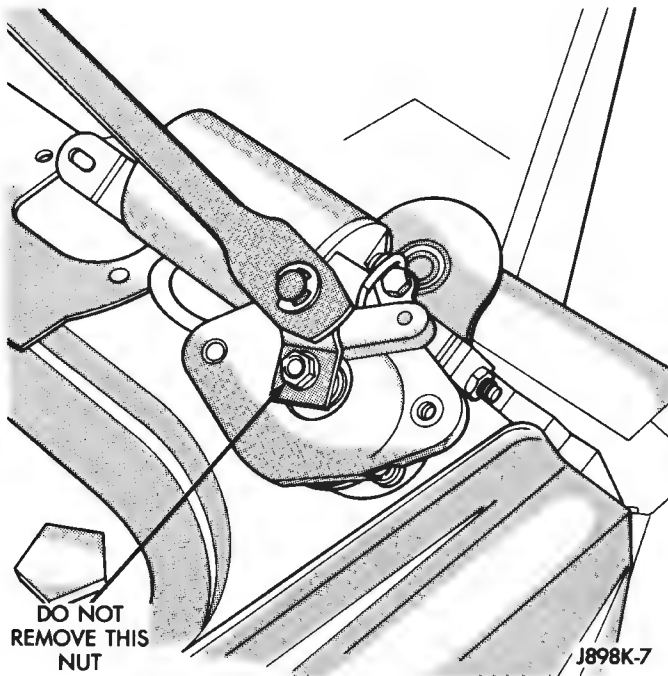

Fig. 10 Drive Link Remove
(10) Remove pivot and connecting link assembly through access hole.
(11) Pry drive link off the motor pivot. DO NOT remove crank arm attaching nut (Fig. 10).